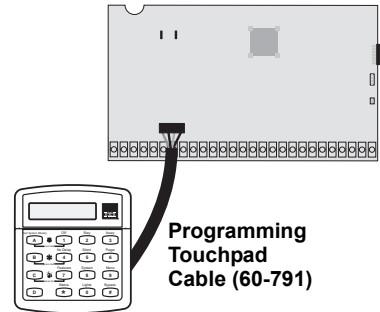

Figure 28. Connecting a Programming Touchpad
3. Connect the plug on the cable onto the panel programming touchpad header (see Figure 28).